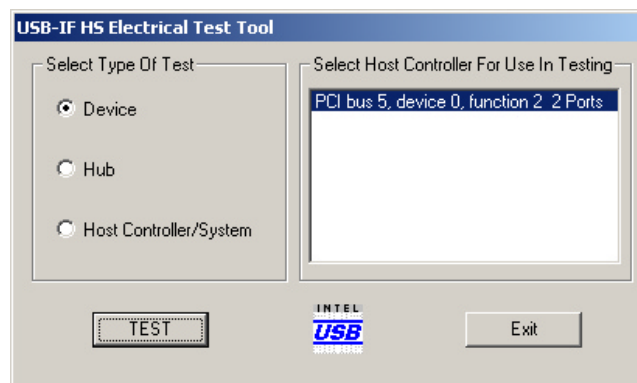

Figure 3. Hi-Speed Electrical Test Tool – Main Menu
7. Invoke the Hi-Speed Electrical Test Tool software on the Hi-Speed Electrical Test Bed computer. The main menu appears and shows the USB2.0 host controller (Figure 3).